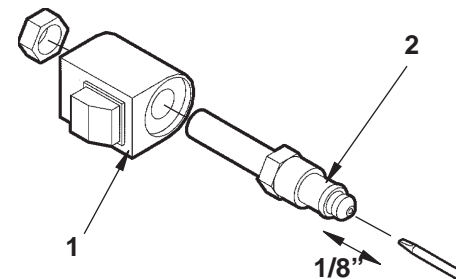

FIG. 45-2
2. Check the valve stem by removing the coil assembly (**Item 1, FIG. 45-2**). With platform on ground, unscrew the valve stem (**Item 2, FIG. 45-2**) from the pump. Push on the plunger that is located inside the valve stem by inserting a small screwdriver blade in the end. If the plunger does not move freely, (approximately 1/8") replace the valve stem. **When reinstalling valve stem, torque hex nut to 30 in-lbs.**